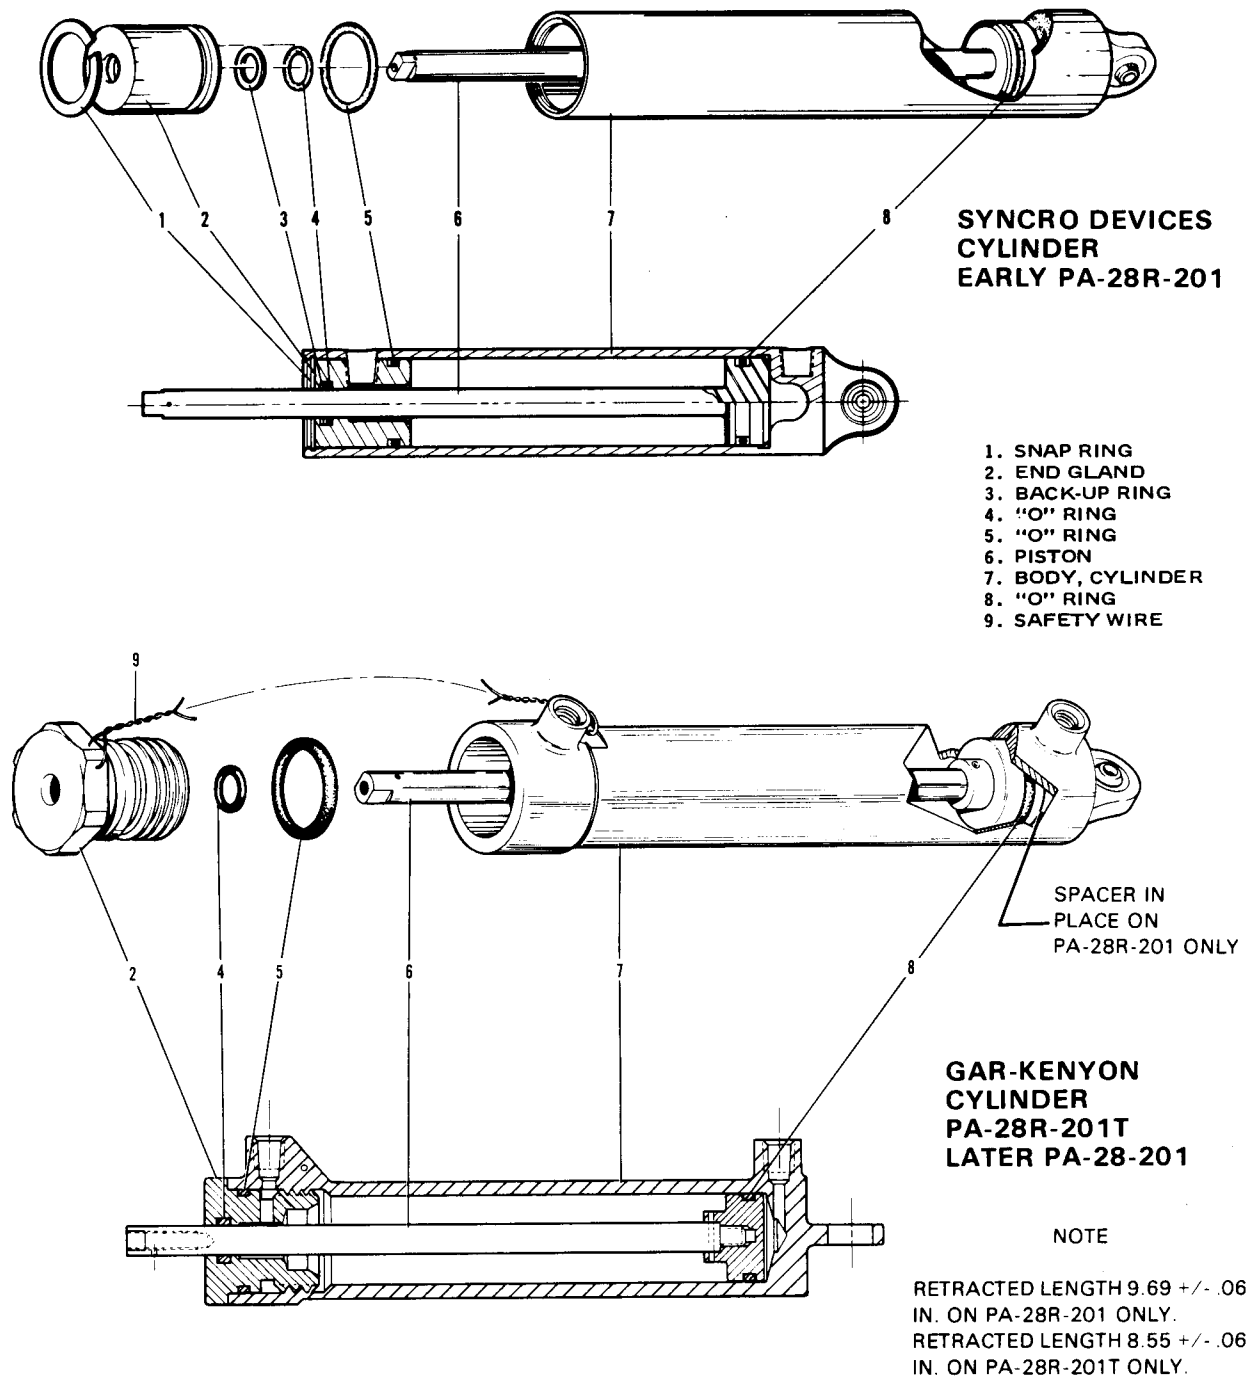

Figure 6-7. Nose Gear Actuating Cylinder
**6-17. DISASSEMBLY OF NOSE GEAR ACTUATING CYLINDER. (Refer to Figure 6-7.)**
- a. With the cylinder removed from the airplane, remove the fitting from the piston rod (6) end of the cylinder (7). Mark the position of the fitting to facilitate reinstallation.
- b. On Syncro Devices nose gear actuating cylinders, remove the snap ring (1) from the annular slot in the end of the housing. On Gar-Kenyon nose gear actuating cylinder, remove safety wire (9) and unscrew end gland (2).
- c. On Syncro Devices assemblies, pull the piston (6) with end gland (2) from the cylinder housing. On Gar-Kenyon assemblies, remove piston (6) after unscrewing end gland (2).
**6-19. ASSEMBLY OF NOSE GEAR ACTUATING CYLINDER. (Refer to Figure 6-7.)**
- a. Install O-ring (5) on the exterior of the end gland (2).
- b. Install O-ring (4) line the interior of the end gland. The Syncro Devices assemblies also include a ring back-up (3) with the O-ring (4).
- c. Install O-ring (8) on the body of the piston assembly.
- e. Lubricate the areas around the O-rings with hydraulic fluid, slide the end gland on the piston rod and the piston into the cylinder housing (7).
- f. Secure the end gland in the cylinder by installing the snap ring (1) in the annular slot in the Syncro Devices cylinder. The end gland on the Gar-Kenyon cylinder is secured by threading gland into cylinder body (7) and securing with safety wire (9).